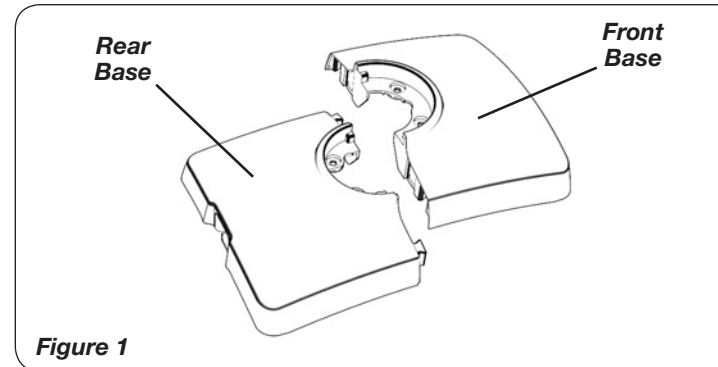

Figure 1
2. Collect the 2 Support Bases and assemble them by interlocking the *Front Base* into the *Rear Base* (Figure 1).